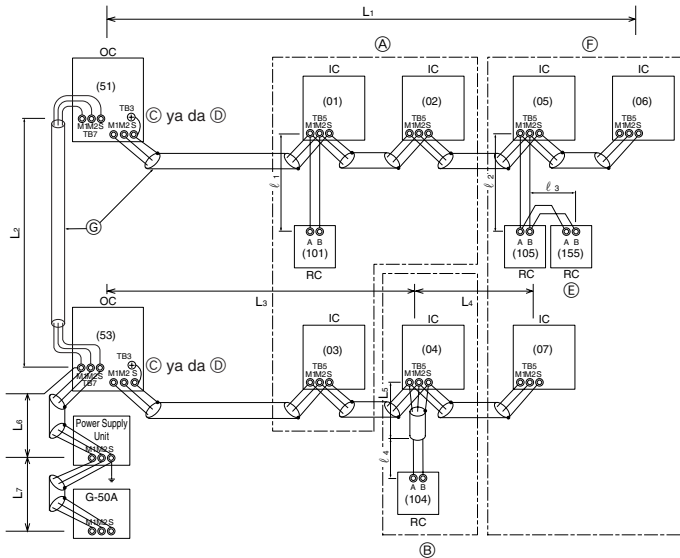

Fig. 6-2
■ M-NET Uzaktan Kumanda (Fig. 6-2)